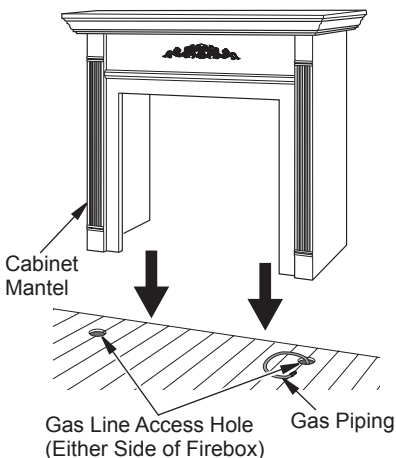

Figure 11 - Installing Cabinet Mantel
2. Install gas piping to firebox location. See *Installing Gas Piping to Fireplace Location*. You may have to cut an access hole in the floor or wall to run gas line to firebox. Make sure to locate access hole so cabinet mantel will cover it when installed (see Figure 11).